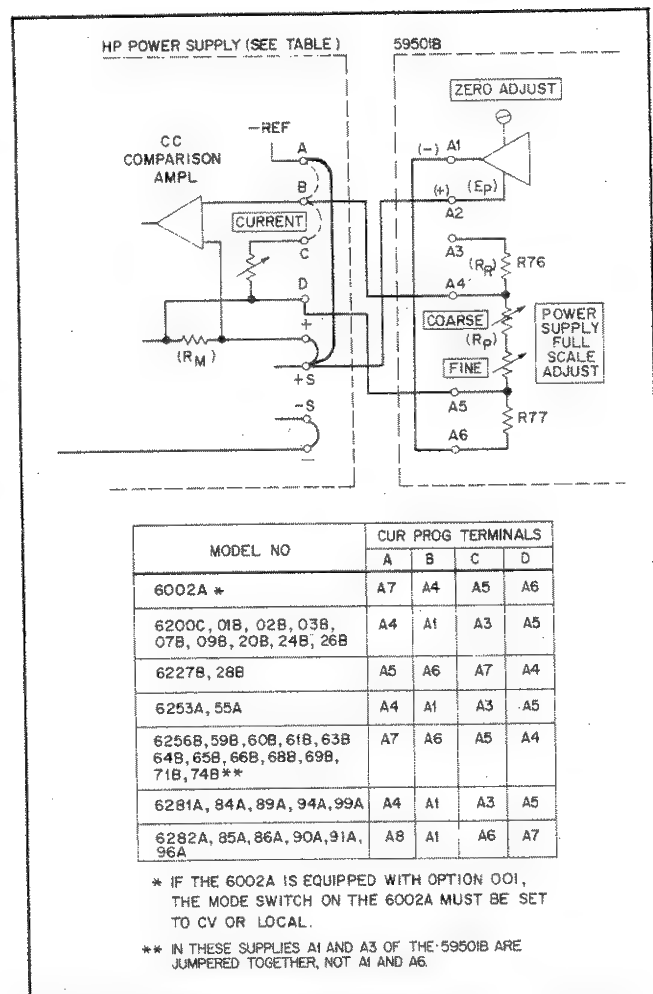

Figure 3-14. CC Programming Connections for HP Power Supply Models with +S Common
**3-50 CC Programming Connections.** Figures 3-14 through 3-20 illustrate the connections required to program the CC output of the applicable power supplies. The dotted connections represent jumpers which must be removed on the supply's rear terminal strip. All other jumpers must be connected as illustrated. Note that only those power supply terminals pertinent to CC programming are shown. Complete terminal strip details are provided in the appropriate power supply Operating and Service manual. Most of the supplies are programmed utilizing the connection diagram of Figure 3-14. The specific connections for each supply are tabulated on the diagram. In all cases (Figures 3-14 through 3-20), the 59501B's programming output voltage is substituted for the supply's internal reference and the 59501B's POWER SUPPLY FULL SCALE ADJUST potentiometers replace the supply's front panel CURRENT control.